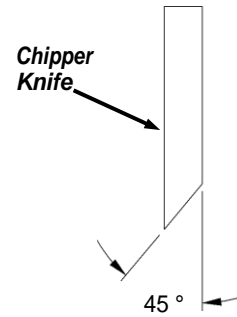

Figure 56
- It is extremely important to consistently maintain the 45-degree angle for proper performance (**Figure 56**).